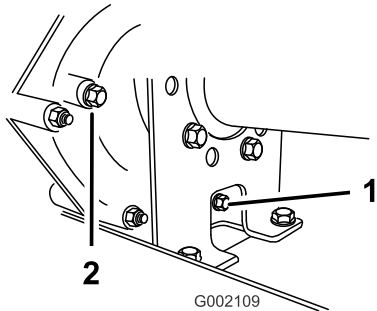
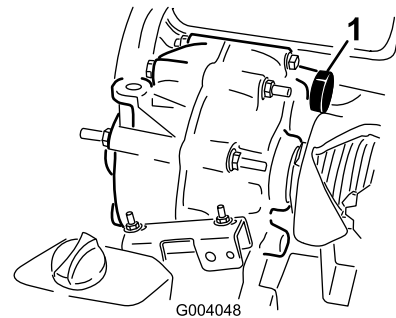

Figure 50
Figure 51
2. Wipe the area around the fill and drain plugs clean with a rag (Figure 50).
4. Remove the fill plug by rotating it counterclockwise (Figure 50).
5. Remove the drain plug by rotating it counterclockwise (Figure 50).
6. Install and tighten the drain plug and gasket into the drain-plug hole of the transmission (Figure 50).
7. Fill the reservoir (Figure 51) through the fill-plug hole with approximately 1.4 L (1.5 US qt) of the specified fluid or until the fluid level in the transmission is even with the bottom of the threads. (Figure 50).
8. Install and tighten the fill plug and gasket into the fill-plug hole of the transmission (Figure 50).
10. Check the fluid level and add more fluid if the level is below the threads of the fill-plug hole (Figure 50).